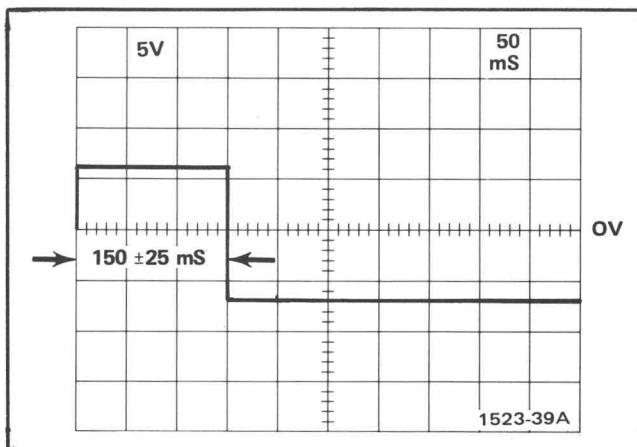

Fig. 5-10. QRS Width.
- b. CHECK—Pulse duration at TP388 is  $150 \pm 25$  ms ( $200 \pm 25$  ms in instruments below serial number B131080); see Fig. 5-10.